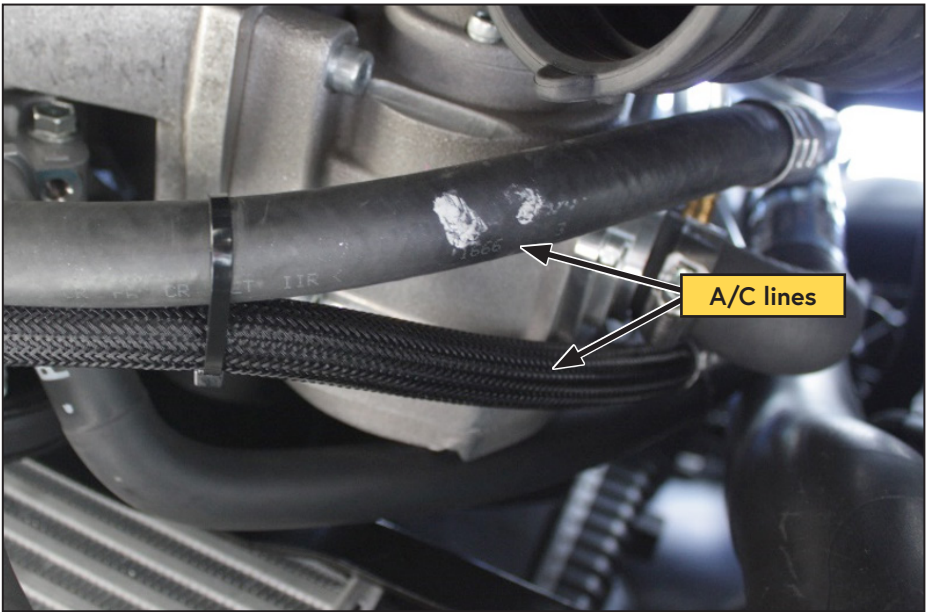

Figure 25 — Install the power steering pump
- Pass the power steering pump in front of both of the flexible A/C lines and install it onto the VMAC bracket (Figure 25).